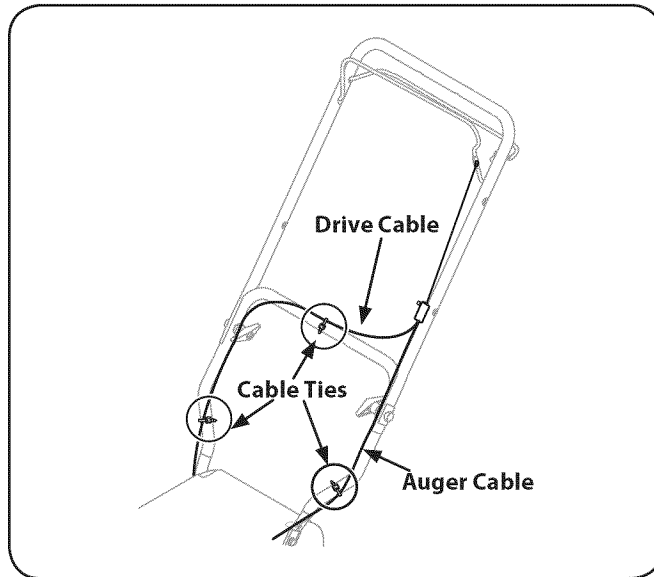

Figure 3-3
1. Make sure that the drive cable is routed parallel to the left upper handle, then across the top of the lower handle and finally parallel to the right lower handle. See Fig. 3-3.
2. Three cable ties have been used to loosely tie the two control cables to the lower handle. Two of these cable ties are on each arm, and the third on the top cross bar of the lower handle. Tighten these cable ties to secure the cable to the lower handle. See Fig. 3-3.